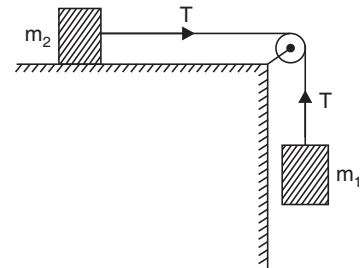

FIGURE 2.14
51. Figure 2.14 shows the two bodies of masses m_1 and m_2 connected by a light inextensible string and a passing over a smooth pulley. Mass m_2 lies on a smooth horizontal plane. When mass m_1 is moving downward the acceleration of the two bodies is equal to
52. Refer to Fig. 2.14, the tension (T) will be equal to
53. If the weight W_2 in Fig. 2.14 is resting on a rough horizontal plane (having co-efficient of friction as μ), then the acceleration is equal to
54. If the weight W_2 in Fig. 2.14 is resting on a rough horizontal plane (having co-efficient of friction as μ), then tension in the string is equal to